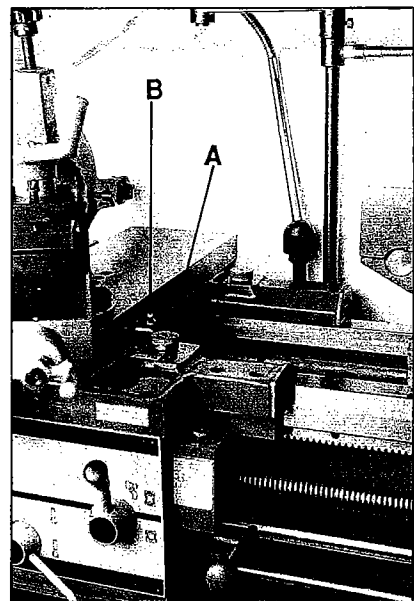

Fig. 16
7. **Carriage Lock** (A, Fig. 16) - lock handle located on top right of carriage. Turn clockwise to lock. Turn counter-clockwise to unlock. **Caution:** carriage lock must be loose before moving carriage or damaged to lathe may occur.
8. **Cross Slide Lock** (B, Fig. 16) - lever located on right side of cross slide body. Turn clockwise and tighten to lock. Turn counter-clockwise and loosen to unlock. **Caution:** cross slide lock screw must be unlocked before moving cross slide or damage to the lathe may occur.